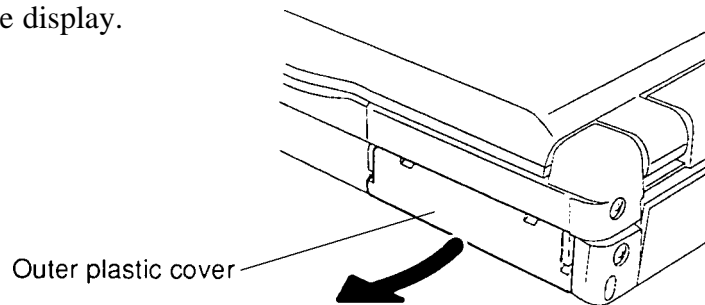

Figure 4-5 Removing the Outer Plastic PCMCIA Cover
To remove an optional PCMCIA card from the T4500/T4600 Family computer or to disassemble the slot, follow the steps below and refer to Figures 4-5 through 4-7:
3. Lift up the **outer plastic cover** on the PCMCIA card slot and carefully disengage the two latches on the sides of the cover to remove it (Figure 4-5).
To install optional PCMCIA card(s) in the computer or assemble the slot, follow the steps below and refer to Figures 4-5 through 4-7:
5. Carefully snap on the **outer plastic cover** (Figure 4-5).